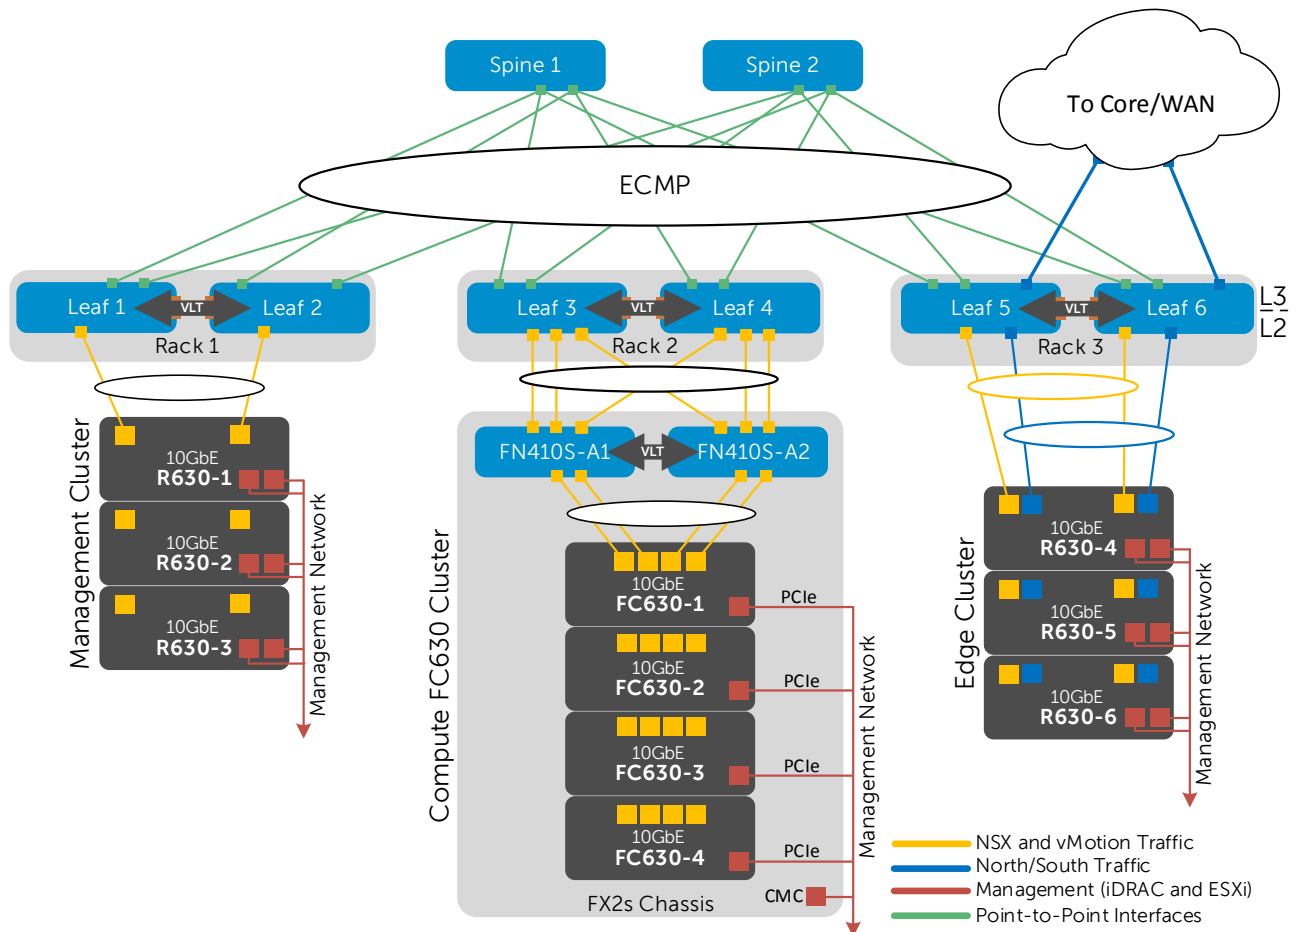

Figure 14 Physical data center network
The three clusters have been spread across three physical racks as shown in Figure 14 to illustrate the scalability of this design as additional servers and switches are added.
- The physical, or underlay, data center network as shown in Figure 14.